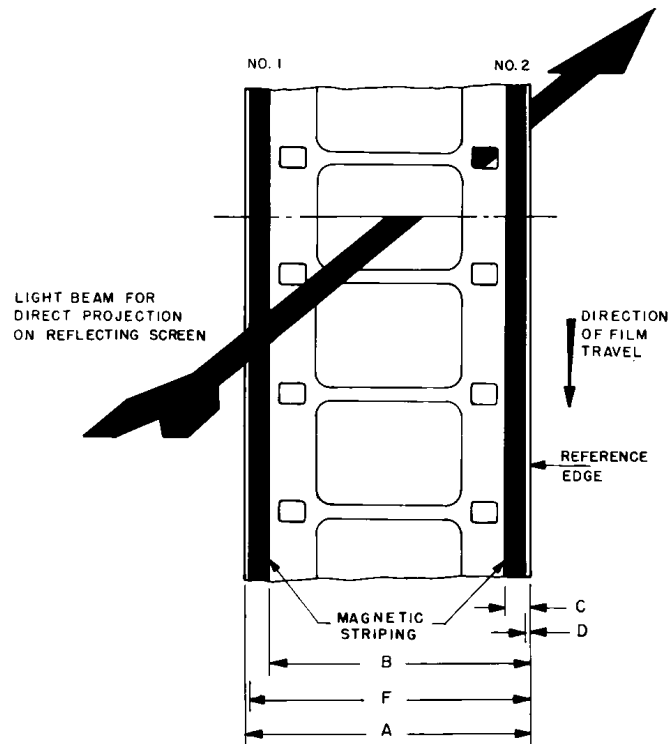

Figure 1 – Magnetic striping
3.1 The location and dimensions of the magnetic striping shall be as given in figure 1 and table 1.